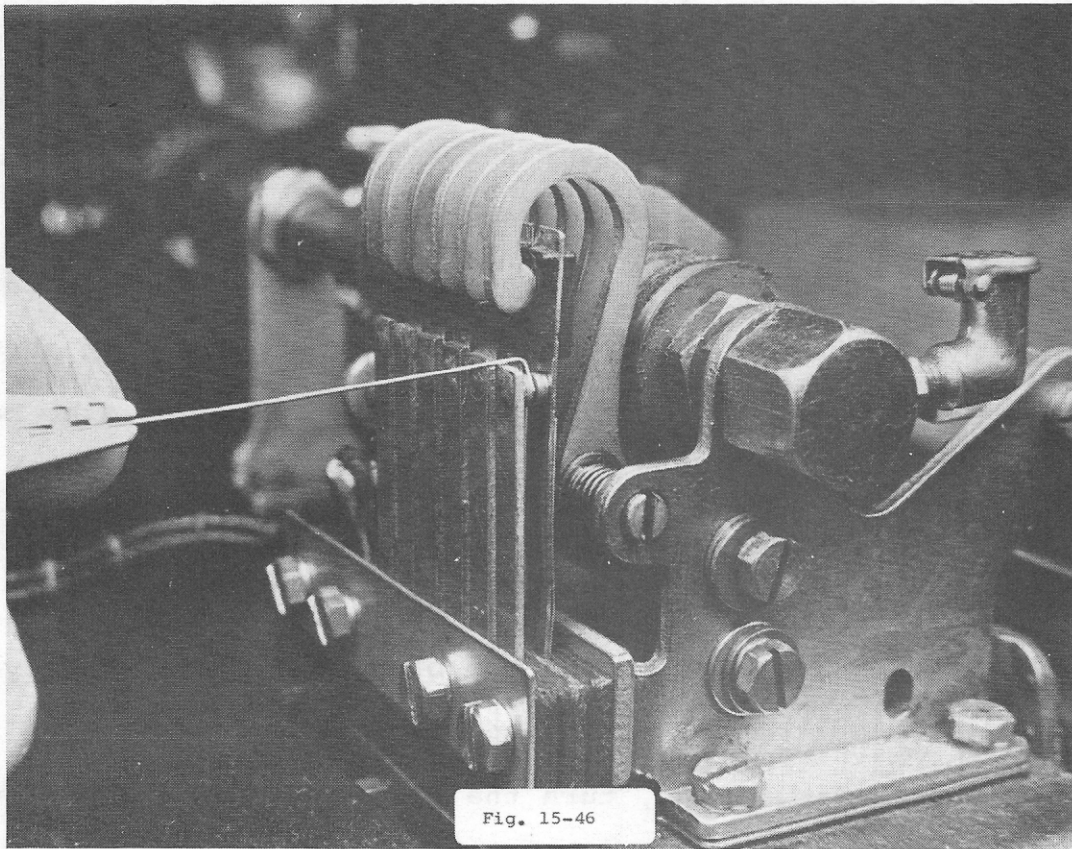

Fig. 15-46
4. Take the .020-inch gauge (a spark plug gauge) and feel the gap between each contact and its opposite mate. This should give a good indication as to gap settings in the keyboard (See Fig. 15-46.)